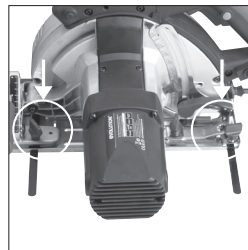

Fig. 2
- If the Parallel Edge guide is fitted, remove it by loosening the two (2) thumb screws and slide the guide from the machine's base plate. **(Fig. 2)**